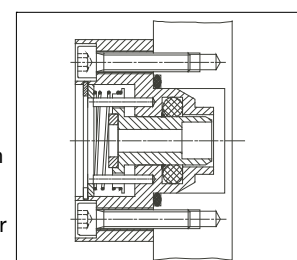

fig. 4: Housing
- Assembly of the housing (all static elements are preassembled in the factory, fig. 4).